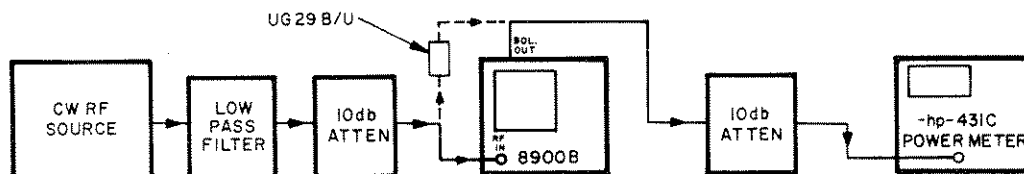

Figure 5-6. Path Attenuation Check Setup
a. Connect equipment as shown in Figure 5-6